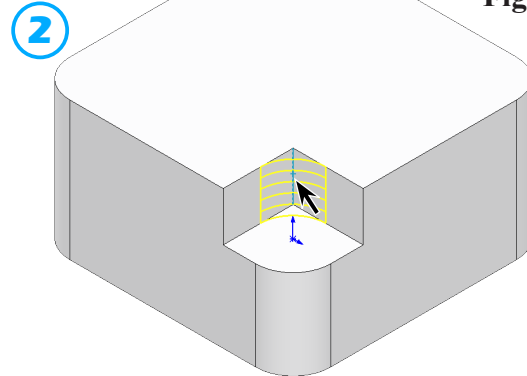

Fig. 15
② **Radius**  **4**
click vertical back edge of cut (1), Fig. 15